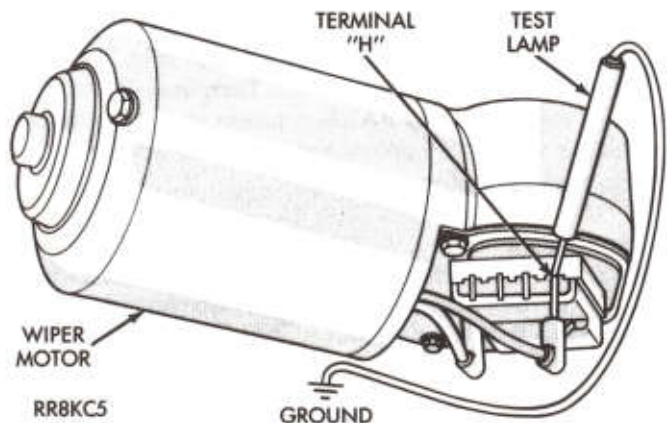

Fig. 3—Test Lamp Between Terminal "H" and Ground
(1) If motor will not run on high speed, put switch in HIGH position and connect a test lamp between motor Terminal "H" and ground (See Fig. 3).